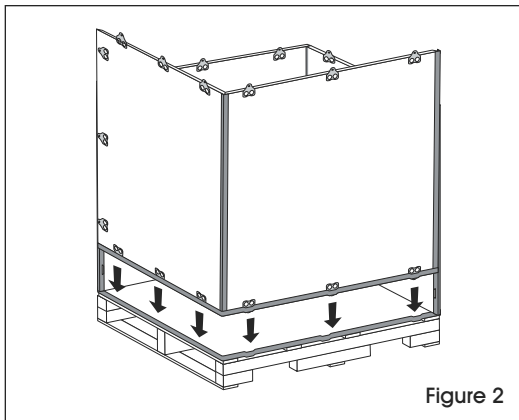

Figure 2
2. Unfold second panel and secure to base and first panel. (See Figure 2)